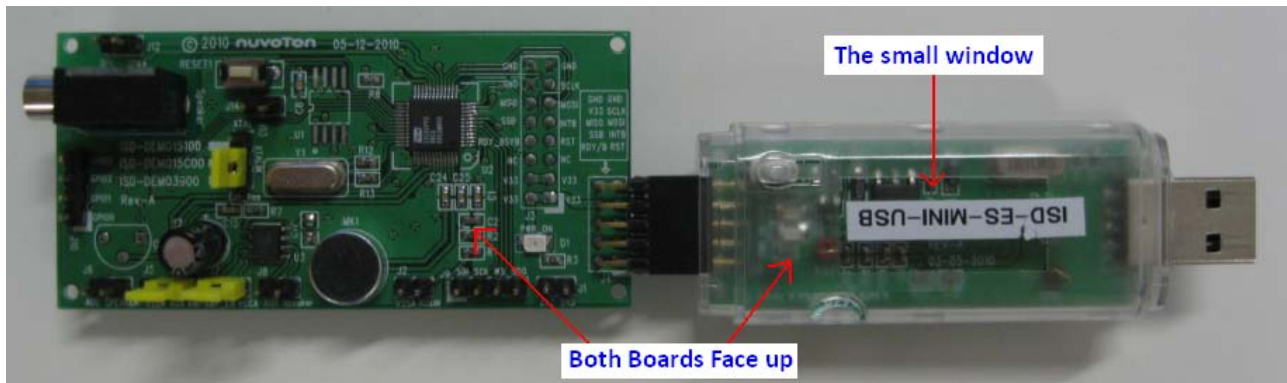

Figure 8 – connect ISD15D00 demo board with the USB dongle.
- ISD-DEMO15100 + Mini USB board, shown in **Figure 8**.
Both combinations can achieve roughly the same functionalities. Combination shown in **Figure 8** is more recommended because of the much lower cost.